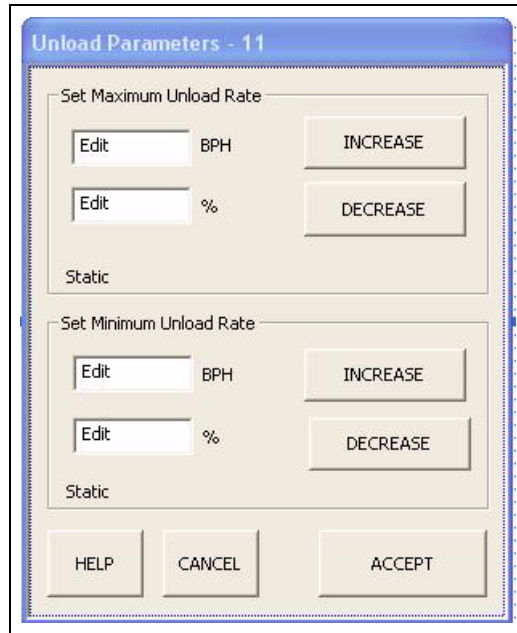

Figure 3G
4. On the “Unload Parameters” screen, set the maximum unloading rate to 100% and the minimum unloading rate to 0% by using the “INCREASE” and “DECREASE” buttons. Touch the “ACCEPT” button to store these values. (See Figure 3G.)